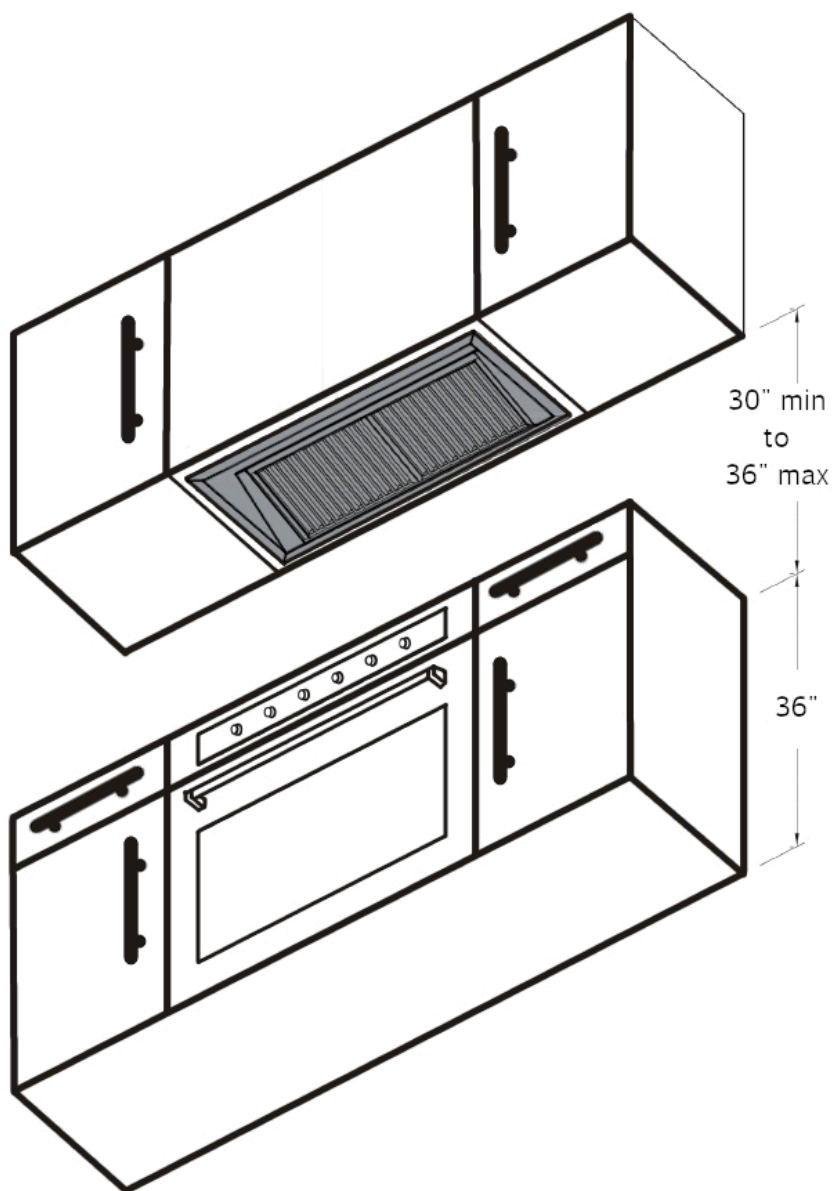

FIGURE 4: INSTALLATION HEIGHT
4. Verify the proper mounting height of the range hood insert (SEE FIGURE 4).